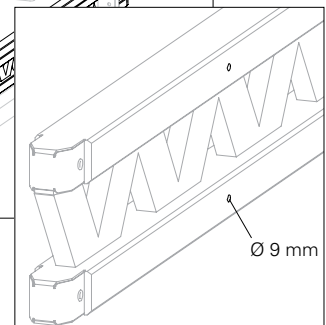

Fig. C2.02a
2. Pre-drill girder, here GT 24 (**75**), according to the drilling plan using  $\varnothing 9$  mm. (Fig. C2.02a)